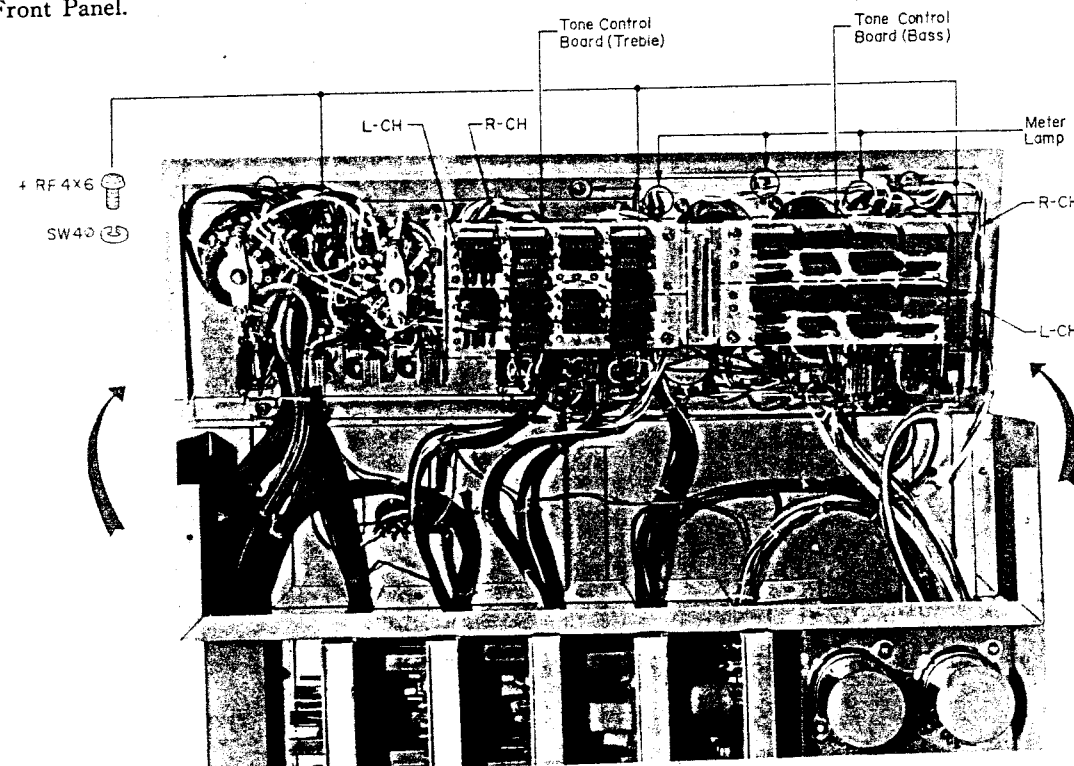

Fig. 2-4. Removal of Front-Panel Ass'y
- The Front Panel Assembly is now free, and may be tilted forward and down as shown in Fig. 2-4. Place protective pads under the Front Panel to prevent it from being scratched.